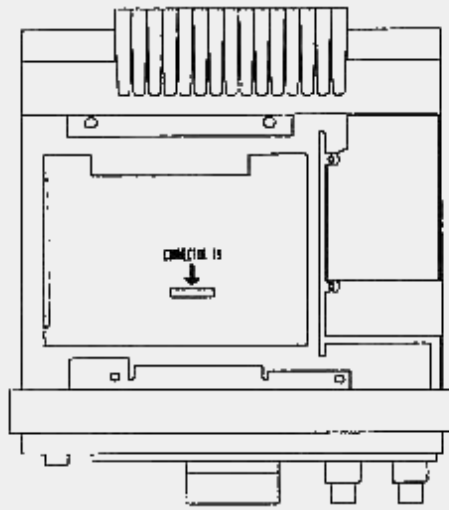

FIGURE 1
- 3. Locate resistor R172 on the component side of the IF board (Figure 1).
3. Locate resistors R86 and R229 on the component side of the IF board (Figure 1).